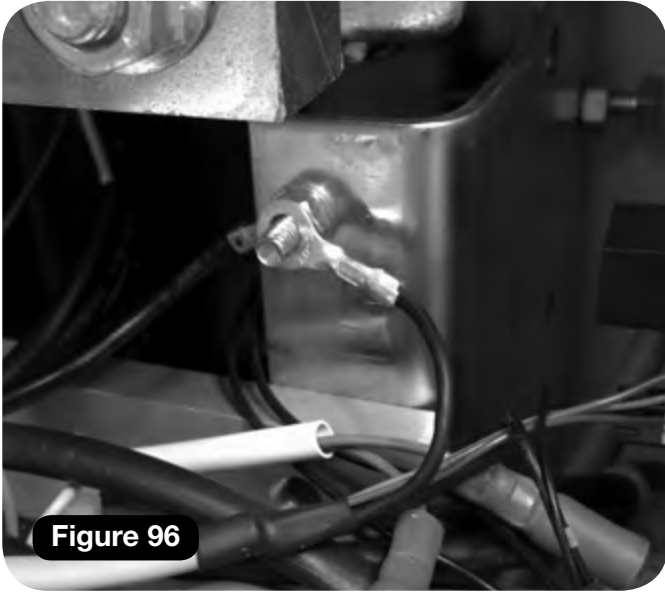

Figure 96
- 4 Connect the motor loom earth to the chassis earth stud (**Figure 96**).